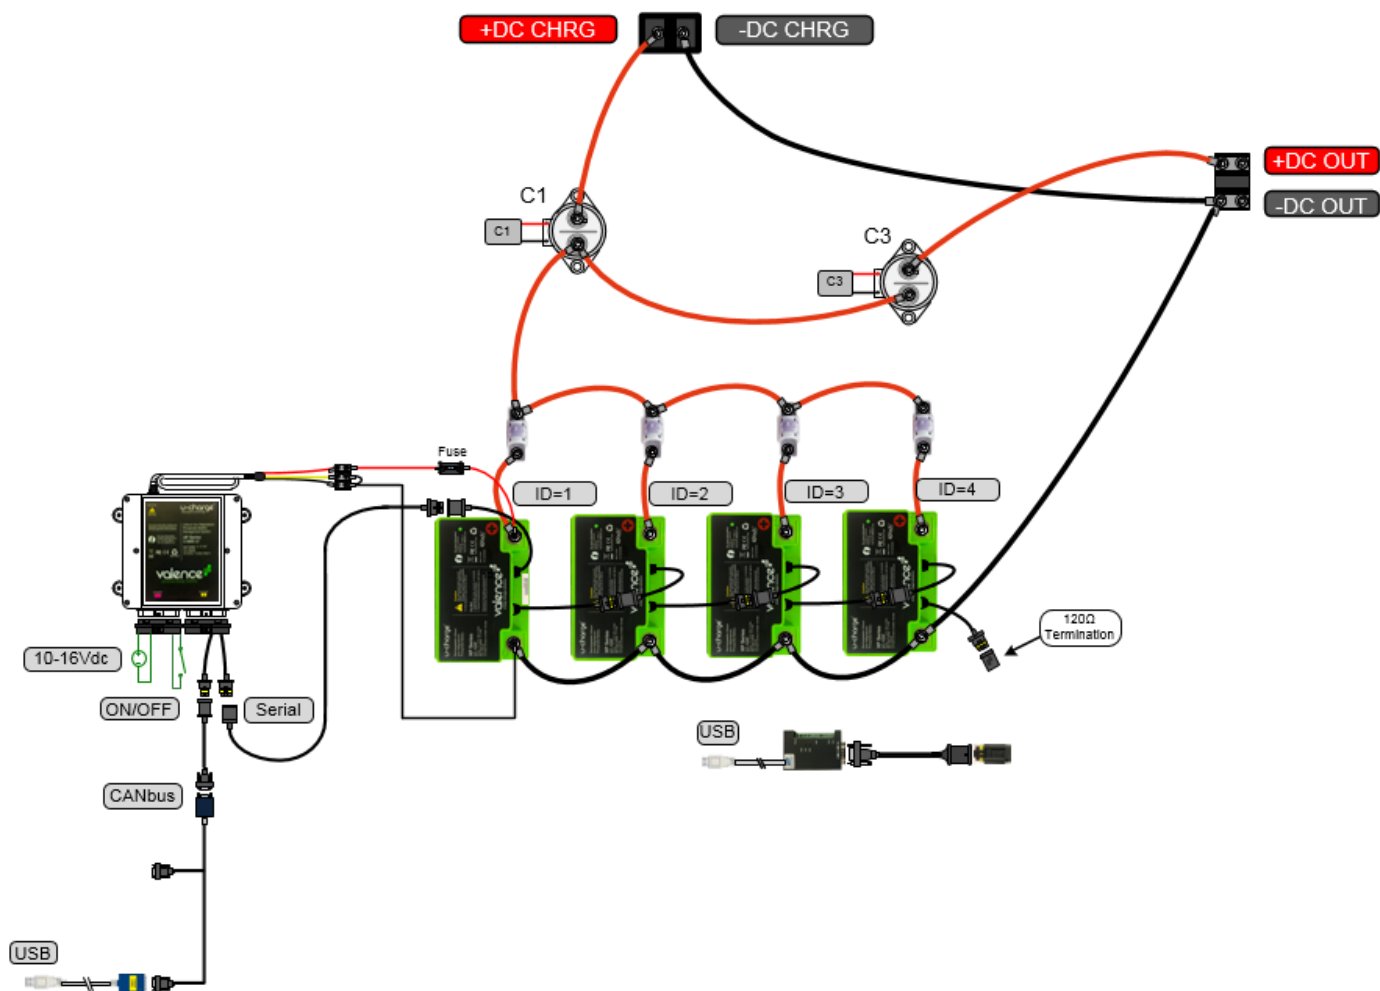

Figure 6-4: Parallel Configuration
Figure 6-4 below. When installing battery modules in parallel, ensure that they are at the same voltage and state of charge prior to installation.
5. Install a properly sized in-line fuse to each battery as shown in Figure 6-4. Install flexible insulated copper interconnect cables of the appropriate gauge for all connections to the battery. Use the same gauge and length cable for all series string connections. Use the same gauge and length cable for joining the strings in parallel. A main in-line fuse can also be used, but the series string fuses are still required.
7. Before making connections to the contactors, use a meter to ensure the contacts are open. Attach an interconnect cable from one side of the contactor to +DC Out, then connect the positive cable from the device/equipment to other side of the contactor as shown in Figure 6-4.
8. Attach the negative cable from the device/equipment to –DC Out as shown in Figure 6-4.